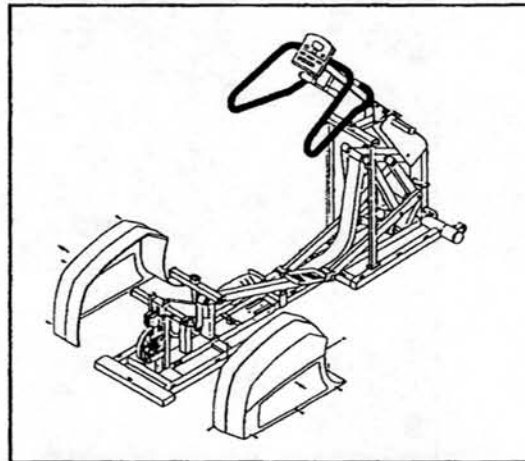

Fig.2-5
5. Remove the MAIN SHROUD by unscrewing (see Fig. 2-5).